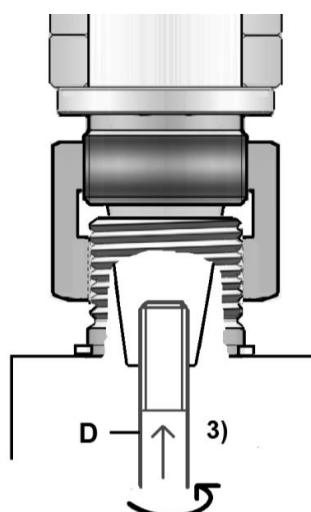

Fig 12
- 3) Place the draw bar (D, Fig 12&13) into the bottom of the spindle and tighten it with the supplied spanner.
The draw bar (D, Fig 12&13) must be removed first.